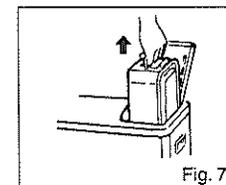

Fig. 7
- Do not remove the cartridge tank while heater is burning or it is still hot. (Fig. 7)